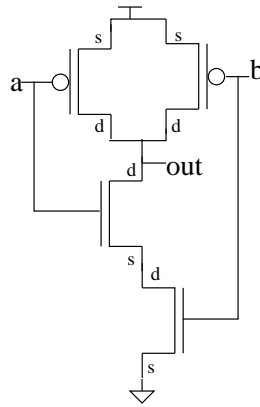

Figure 1: NAND gate - Transistor-level
1. Wire it up. Using the standard 4 transistor nand-gate circuit discussed in class (figure 1) as a model and your planned layout from the prelab, wire up a two-input nand-gate with the discrete transistors on your protoboard.